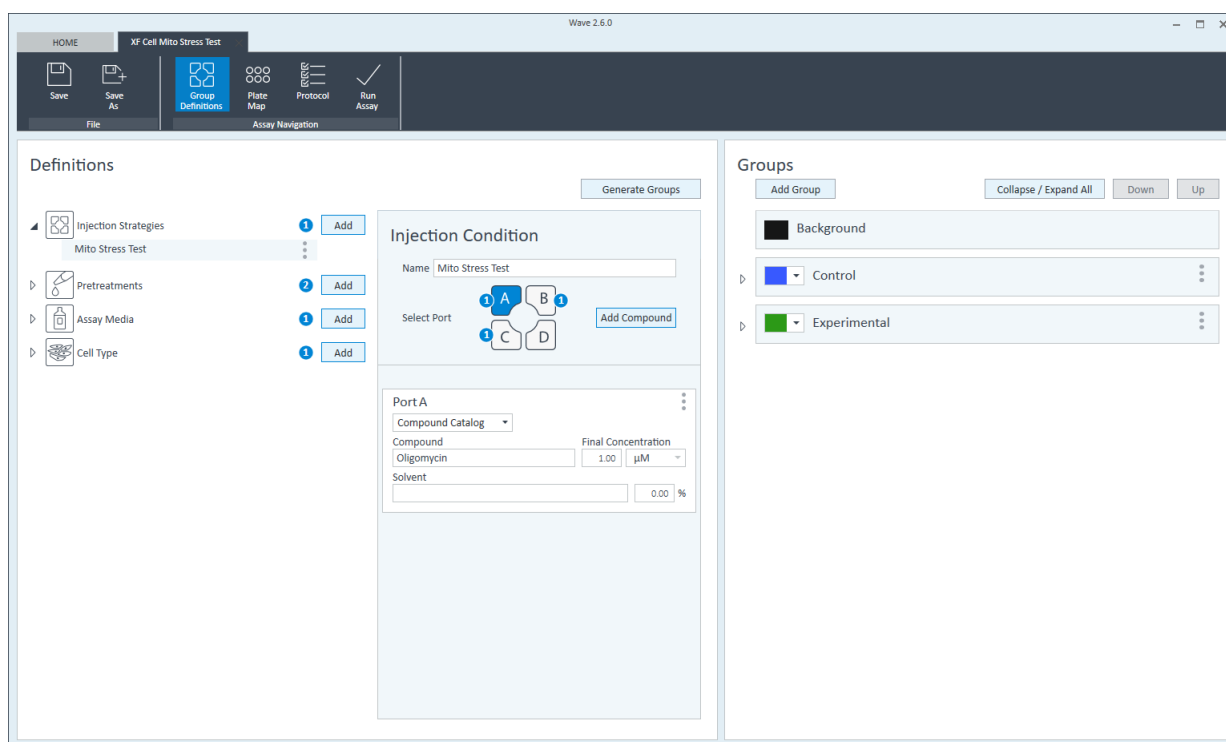

Figure 5 Group definitions
- 1 Click **Add** next to **Injection Strategies**. (See Figure 5.)